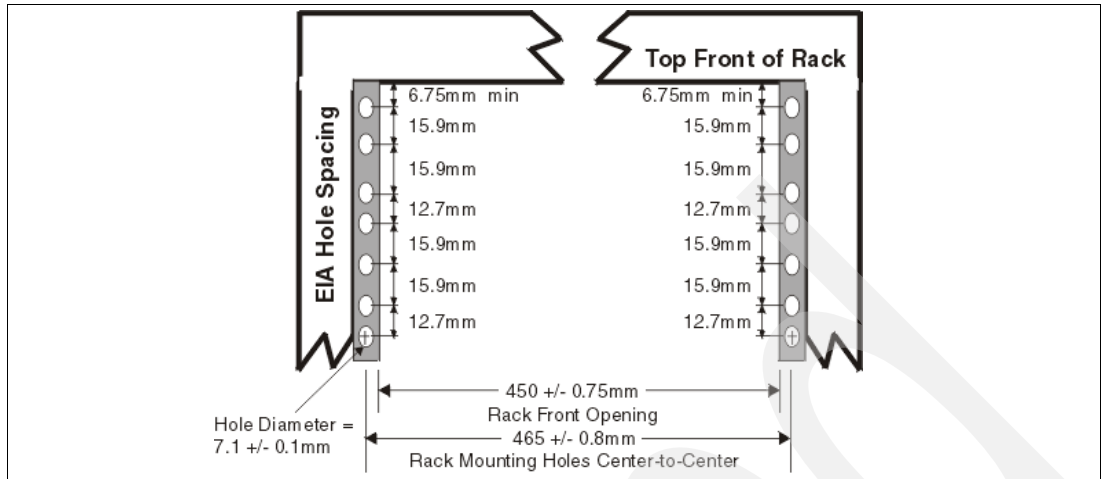
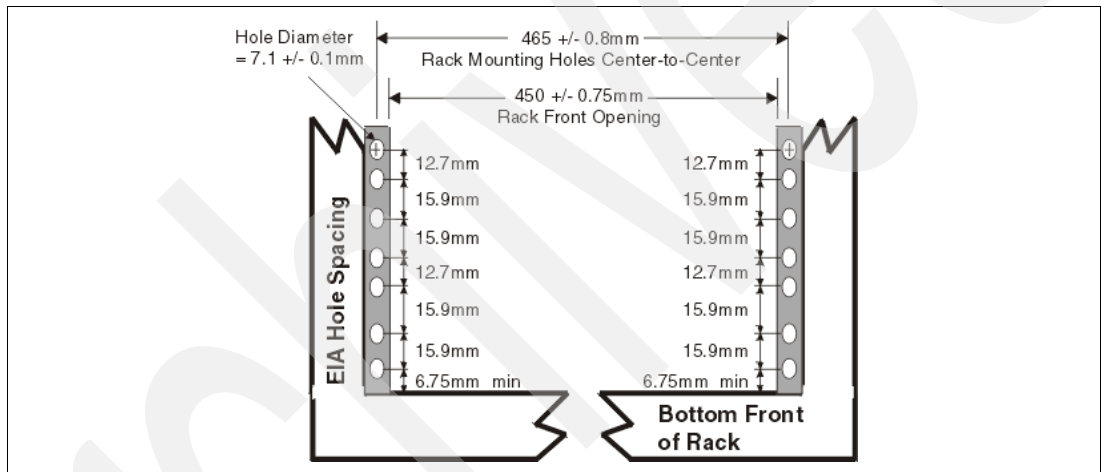

Figure 1-6 Rack specification dimensions, top front view
Figure 1-7 Rack specification dimensions, bottom front view
- ▶ The vertical distance between the mounting holes must consist of sets of three holes spaced (from bottom to top) 15.9 mm (0.625 in.), 15.9 mm (0.625 in.), and 12.67 mm (0.5 in.) on center, making each three-hole set of vertical hole spacing 44.45 mm (1.75 in.) apart on center. Rail-mounting holes must be 7.1 mm + 0.1 mm (0.28 in. + 0.004 in.) in diameter. See Figure 1-6 on page 23 and Figure 1-7 on page 23 for the top and bottom front specification dimensions.